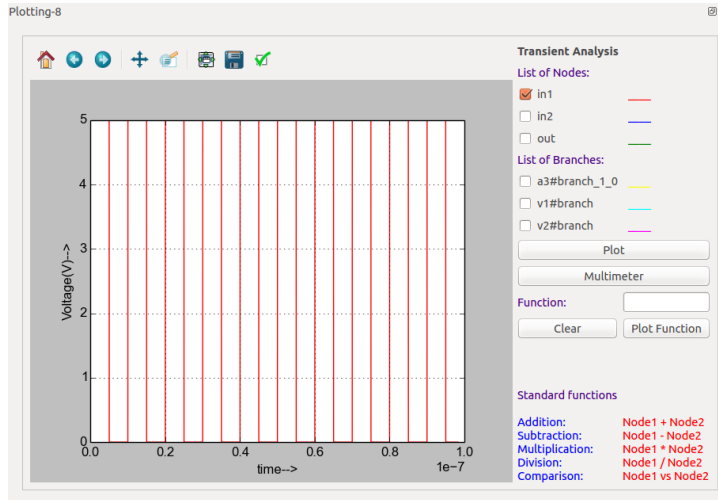
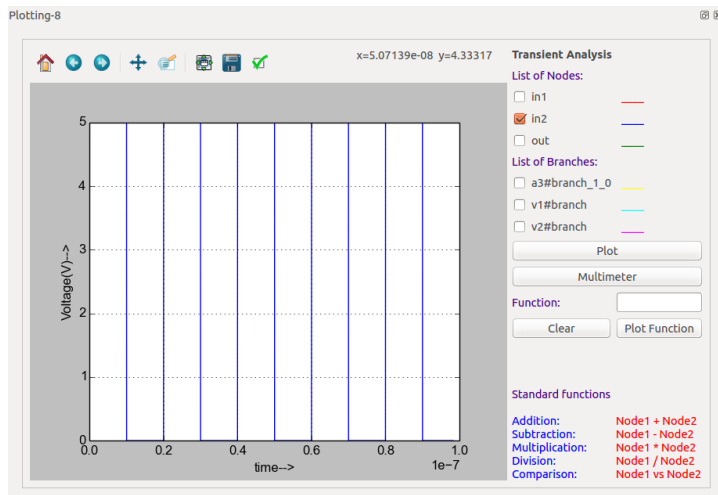
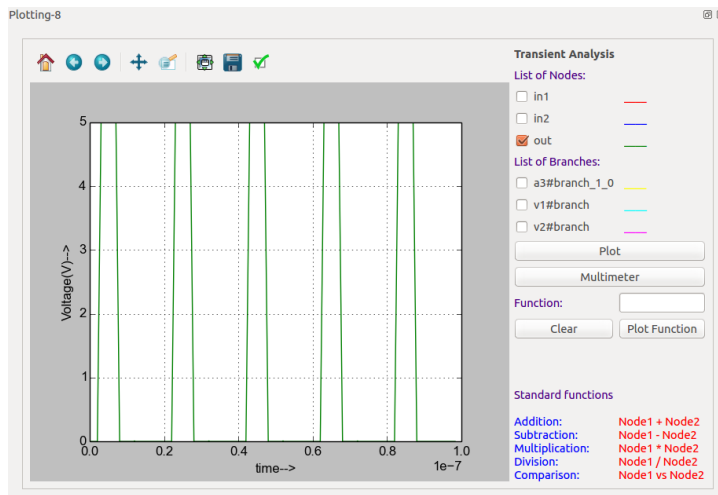

Figure 9.17: Plot of Source V1
Figure 9.18: Plot of source V2
Figure 9.19: Plot of output
- Now select the required nodes and click on **Plot** button. You can see the plots of input source v1, input source v2 and output as shown in Fig. 9.17, Fig. 9.18, and Fig. 9.19 respectively.